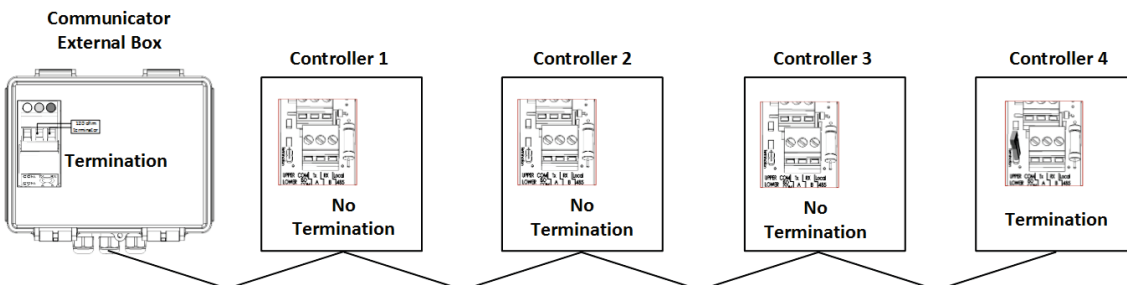

Figure 47: External Box – Controller Termination
- If an Expansion unit is installed at the end of a chain, install a 120 Ohm termination resistor (supplied by Munters) (Figure 47).